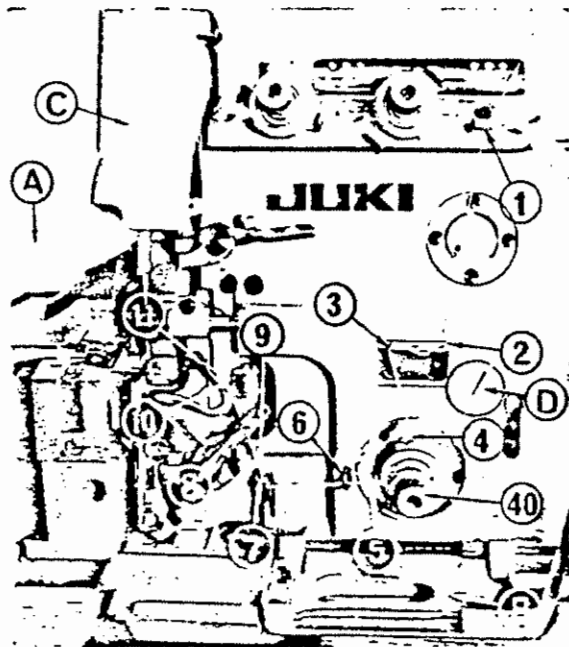

Fig. 9
(Please see Fig. 9)
Slide the looper cover ⑥ slightly to your right and tilt it towards you, rotate the pulley to lower the needle bar, then thread the upper looper in the order of ①—⑩ as shown in Fig. 9.
- [2] Adjust the upper looper thread by ④ of Fig. 9.
of the crankshaft cam. To do this, first move the looper cover to your right and tilt it towards you and release the feed adjusting hole set screw (D) Fig. 9.
When the adjustment is completed, tighten the set screw ② and cover it up with the feed adjusting hole screw (D), Fig. 9. The feeding amount can be adjusted from 8 stitches (3.2 mm) (1/8") to 18 stitches (1.4 mm) (1/128") per inch (25.4 mm)